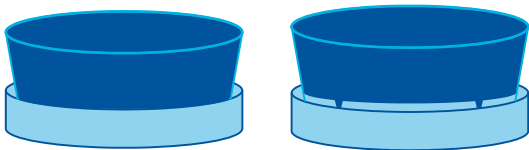

Figure 31 Geometry of extrusion tool.
- The cooling air is channeled through a slit formed between two cones placed one inside the other, thus sending the air out in an upward direction (Figure 31).